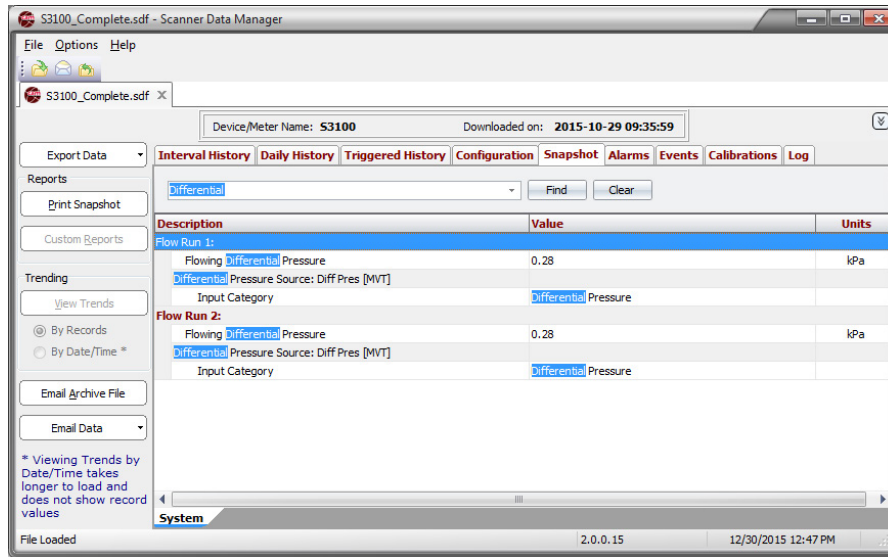

Figure 2.22—Snapshot report after search
1. Click in the search field (Figure 2.22, page 28) and enter the search word or phrase.